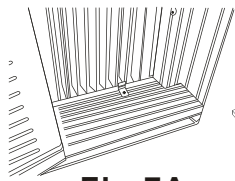

Fig.7A
A. Place the frame lock between the frame extensions and the window sill as shown (Fig.7A for Wooden Windows (Fig.7B for Vinyl-Clad windows).